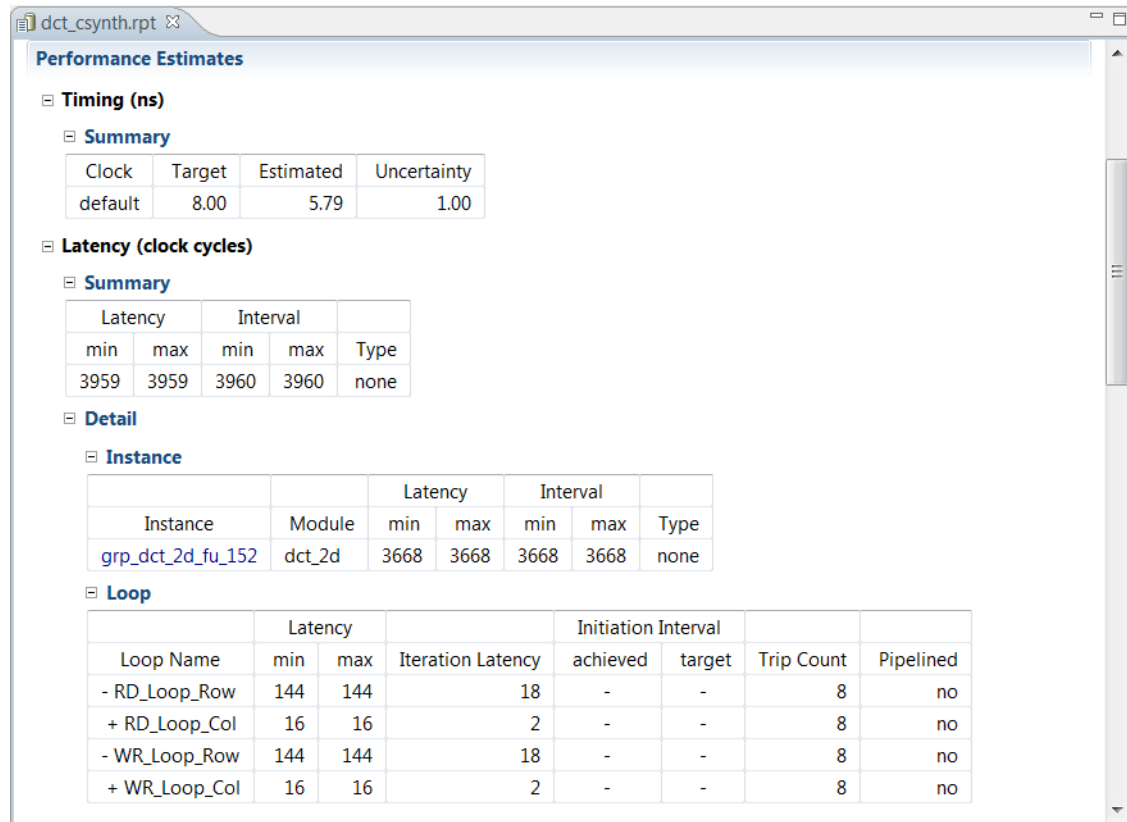

Figure 6-5: Report for Initial DCT Design
When synthesis completes, the synthesis report opens automatically. Figure 6-5 shows the performance section of the report.
Figure 6-5 highlights the following information.
- The loops in the `read_data` and `write_data` functions are therefore implemented at the top level and are reported as loops in the top-level function (Figure 6-5).